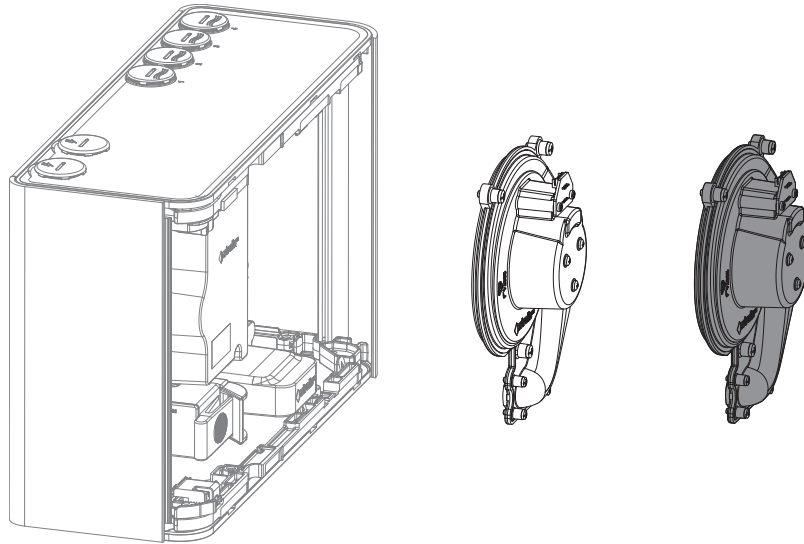

Figure 7-9: Remove aspirator from the detector
5. Remove the aspirator perpendicular to the detector body (Figure 7-9).